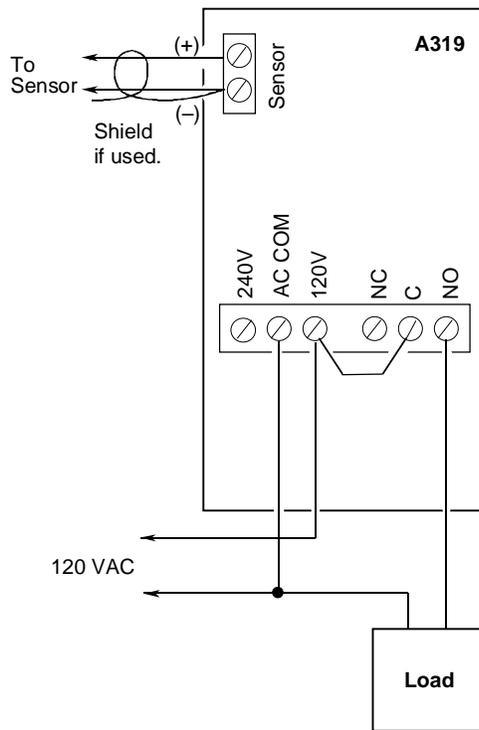

Figure 5: Typical Line Voltage (120 VAC) Wiring for the A319 Control
Refer to Figures 5 and 6 for typical wiring diagrams.
- Consult the typical wiring diagrams (Figures 5 and 6) for proper wiring and terminal designations.
- When shielded cable is used, connect shield to the “-” terminal of sensor terminal block (as shown in Figures 5 and 6).